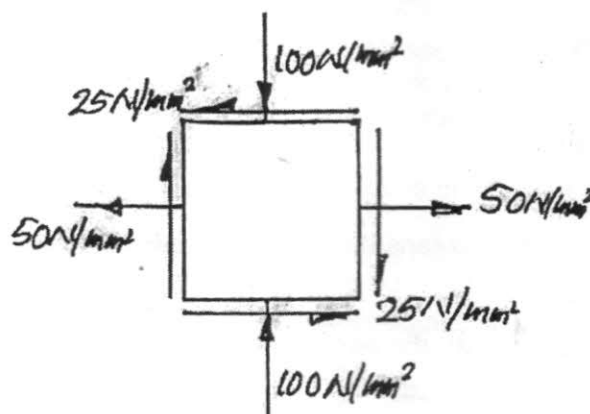

Figure 1 (b)
b) The state of stress at a point in a strained material is shown in Figure 1 (b). Determine i) Principal stresses and their planes ii) maximum shear stresses and their planes.